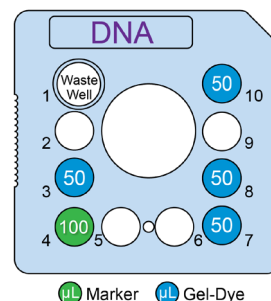

Figure 1. Low-throughput
7. Using a Reverse Pipetting Technique, add gel-dye to chip well 3, 7, 8, and 10 as shown in **Figure 1. Low-throughput** or **Figure 2. High-throughput**.
8. Add HiSens DNA Marker to chip well 4 as shown in **Figure 1. Low-throughput** or **Figure 2. High-throughput**.